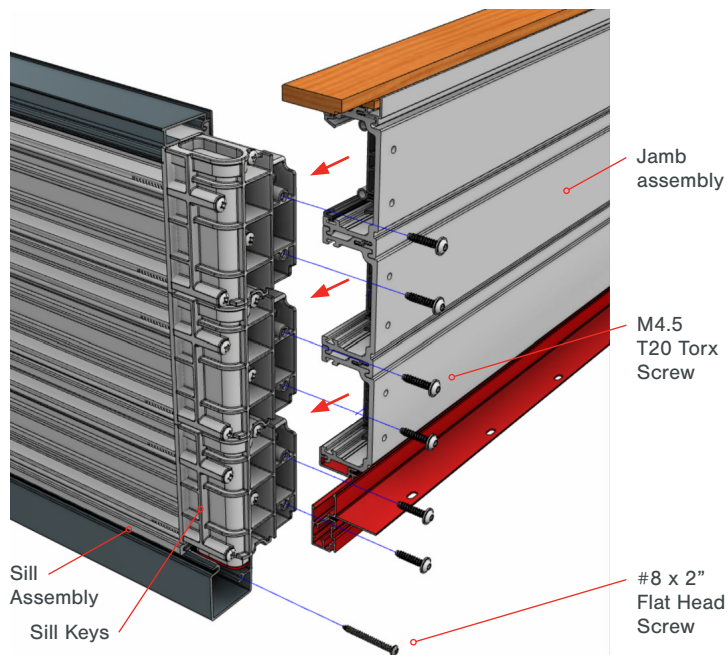

Fig 16
- Rotate the Sill and one of the Jambs to rest on their exterior faces (Fig 16.)
- Fasten the Frame Cladding to the Sill Nosing using the #8 x 2" Flathead screw provided (Fig 16.)